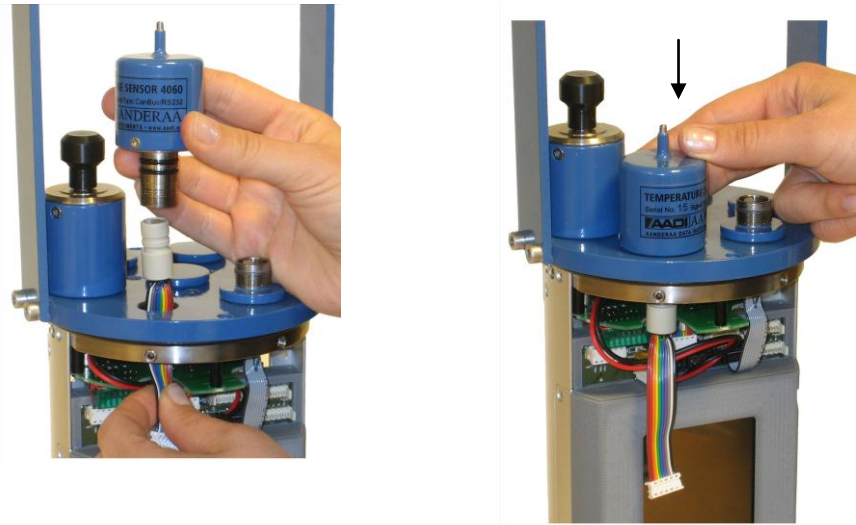

Figure 7-13 Connect the sensor to the patch cable 3969492.
- a. AiCaP sensor in position 6: Disconnect the upper battery. Unscrew and remove the two screws that hold the top cover. Refer Figure 7-12. Remove the top cover. Thread the ribbon sensor cable through the borehole. Align the orientation pin for correct orientation of the sensor. Gently push down the sensor. Refer Figure 7-13. Connect the sensor cable to J6 on the HUB; refer Figure 7-14.